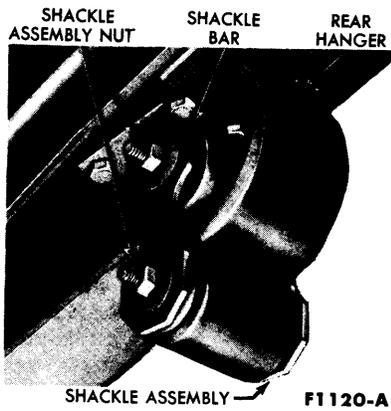

FIG. 12—Rear Spring and Rear Hanger
hanger and spring (Fig. 12).
1. Position the rear eye of the spring to the rear hanger and install the shackle assembly to the spring and hanger (Fig. 12). The rear eye is at the long end of the spring from the center tie bolt. Install the shackle bar and retaining nuts. **Do not tighten the nuts at this time.**